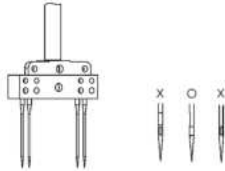

图8 (Fig. 8)
1. 拧下螺钉(A)并取下针。(图8)
1. Loosen screw (A) and take out the used needle. (Fig.8)
2. Put new needle into the holder holes as they can go and left the long groove of needle face you and Fasten Screw (A)